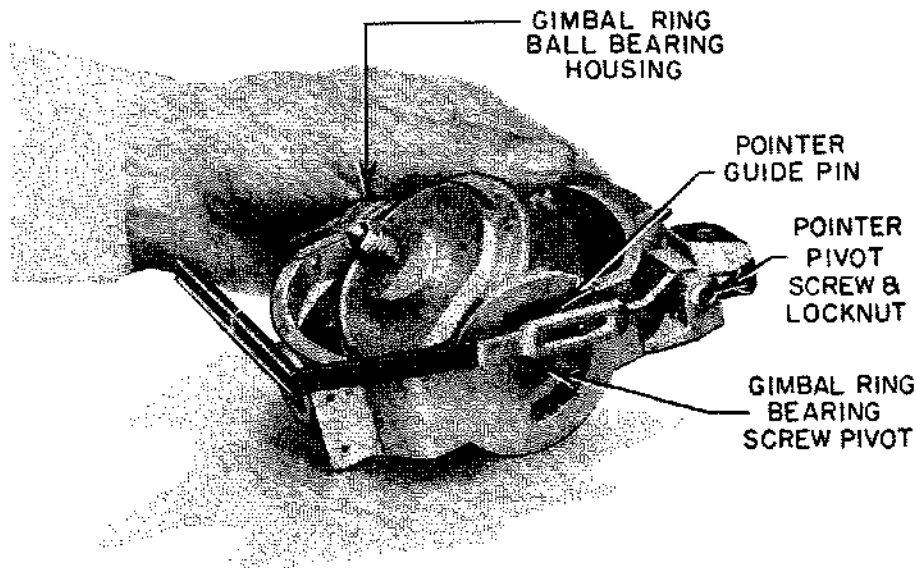

FIGURE 13 THE INSTRUMENT READY FOR DISASSEMBLY
1. Hold instrument in the left hand, taking care not to damage the pointer, and proceed with disassembly as follows: (See Fig. 13.)